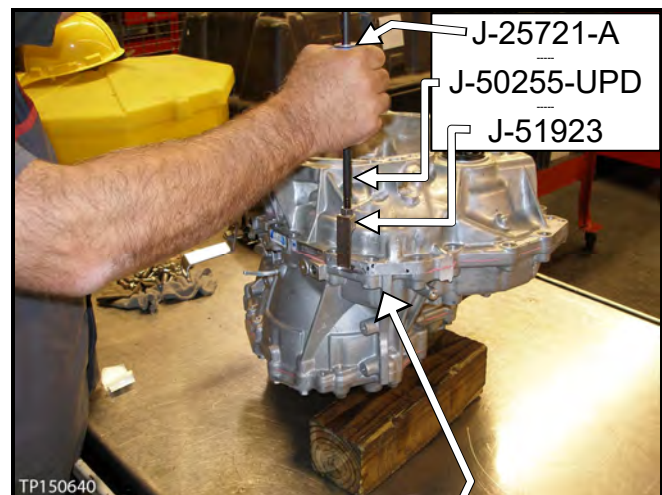

Figure 3
- Use Slide Hammer J-25721-A and Slide Hammer Bolt J-50255-UPD with J-Hook J-51923 at the cutout areas similar to the one shown in Figures 3 and 4.